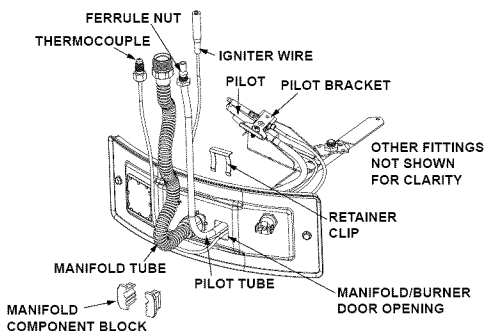

FIGURE 34.
2. Lift the retainer clip straight up from the back of the manifold component block (using a flat-blade screwdriver), then remove the manifold component block from the manifold door (Figure 34.)
- Position the new thermocouple through the bottom opening of the manifold component block (Figure 34). Be sure igniter wire is positioned through the small opening of the manifold component block.
- Lift the retainer clip straight up from the back of the manifold component block (using a flat-blade screwdriver), then remove the manifold component block from the manifold door (Figure 34.)
- Carefully bend the new pilot tube and thermocouple to match the bend of the manifold tube. **NOTE:** When bending, **DO NOT** crimp or crease the pilot tube or thermocouple. (Figure 34)
- Route the new pilot tube, thermocouple, and igniter wire through the manifold/burner door opening. (Figure 34)